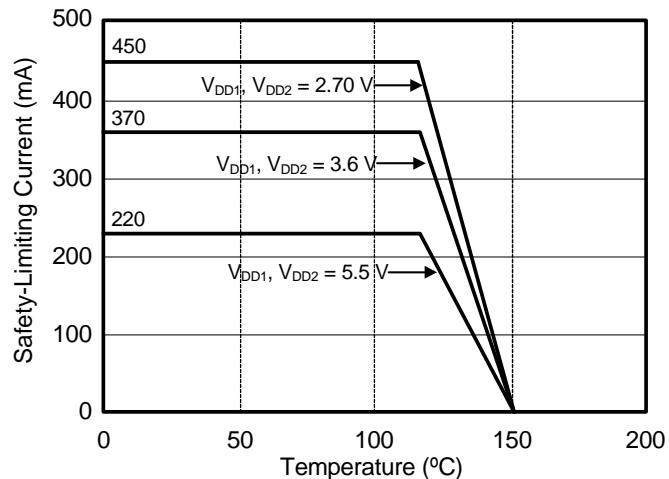

Figure 4. (WB SOIC-16) Thermal Derating Curve, Dependence of Safety Limiting Values with Case Temperature per DIN EN 60747-5-2
1. Maximum value allowed in the event of a failure; also see the thermal derating curve in Figures 4 and 5.